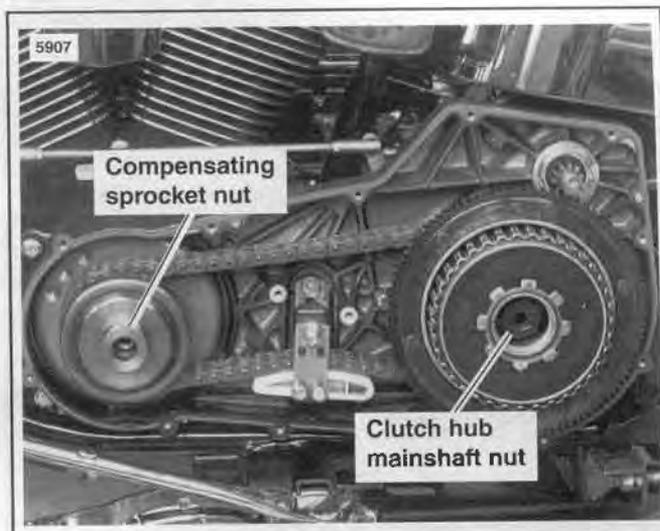

Figure 6-5. Compensating Sprocket and Clutch Hub
4. Remove retaining ring (4) and release plate (5).
5. See Figure 6-5. Using an air impact wrench, remove clutch hub mainshaft nut. The mainshaft nut has left handed threads, so turn clockwise to remove.